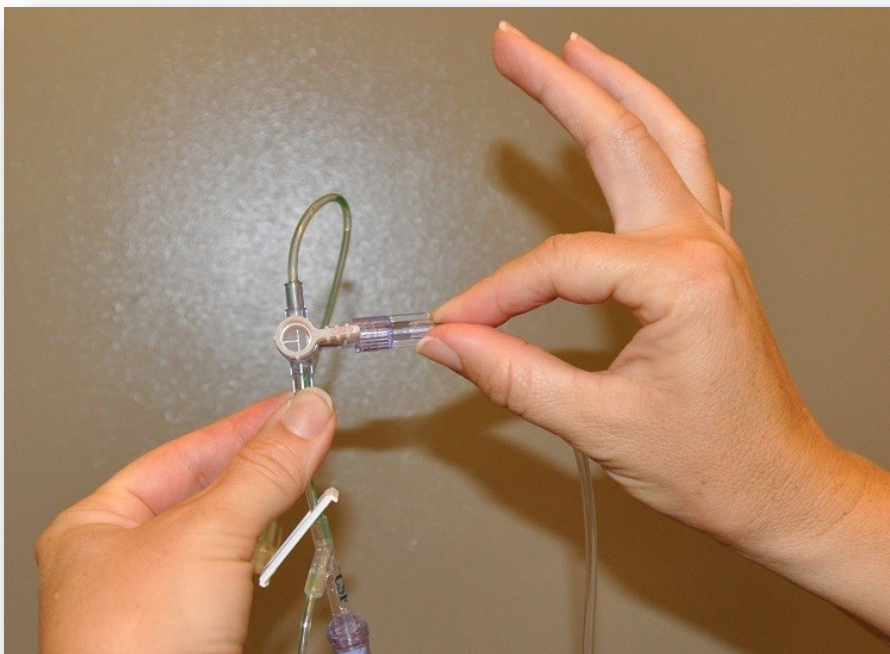

Figure 6 Connect pressure tubing directly to patient stopcock
- Remove the extension from the end of the transducer pressure tubing and connect the remaining tubing directly to the patient stopcock (do not use needless access device) (Figure 6).